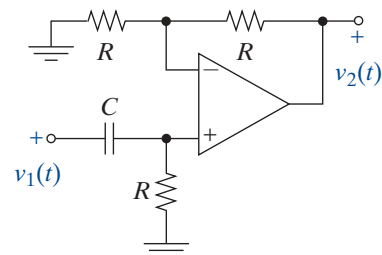

FIGURE P12-15
- 12-15 **D** Find the transfer function $T_V(s) = V_2(s)/V_1(s)$ of the circuit in Figure P12-15. What type of gain response does the circuit have? What is the passband gain? Select practical, standard values of R and C from the inside rear cover so that the cutoff frequency is 300 kHz $\pm 5\%$.